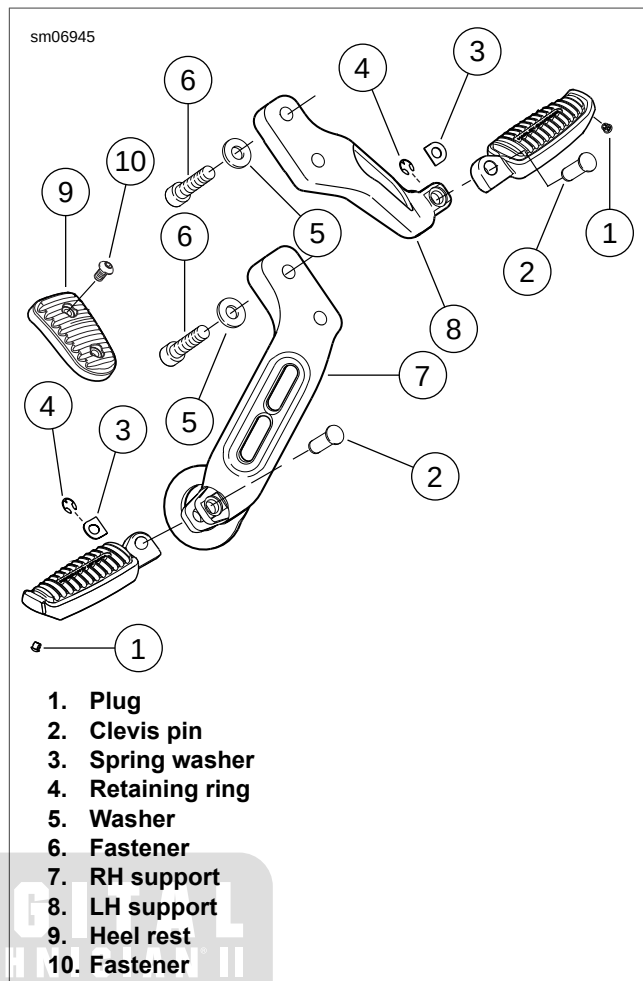

Figure 2-239. Left and Right Passenger Footrests
1. See Figure 2-239. Remove retaining ring (4), clevis pin (2), footrest and spring washer (3). Discard retaining ring.
3. Remove two fasteners (6), washers (5) and footrest support (7, 8) from frame.
1. See Figure 2-239. Attach left and right footrest support (7, 8) to frame with two fasteners (6) and washers (5). Tighten to 45-50 ft-lbs (61-68 Nm).
3. Install footrests on footrest support with spring washer (3). Make sure spring washer is positioned inside support bracket mounting boss with the square edge toward the inside.
4. Align holes in footrest and support bracket and push clevis pin (2) from top down through hole in support bracket. Secure with **new** retaining ring (4).